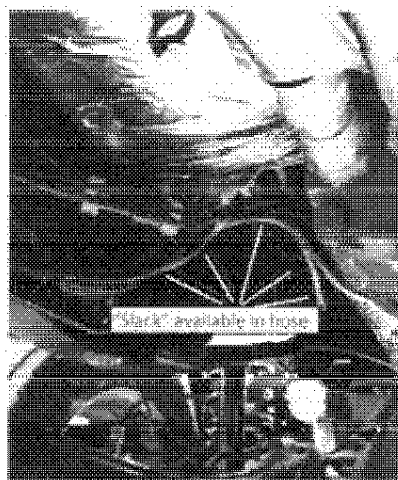

Fig. 5
12. Use cable ties and attach the pressure switch hose and harness away from heat source and moving or rotating components. See Fig. 5.